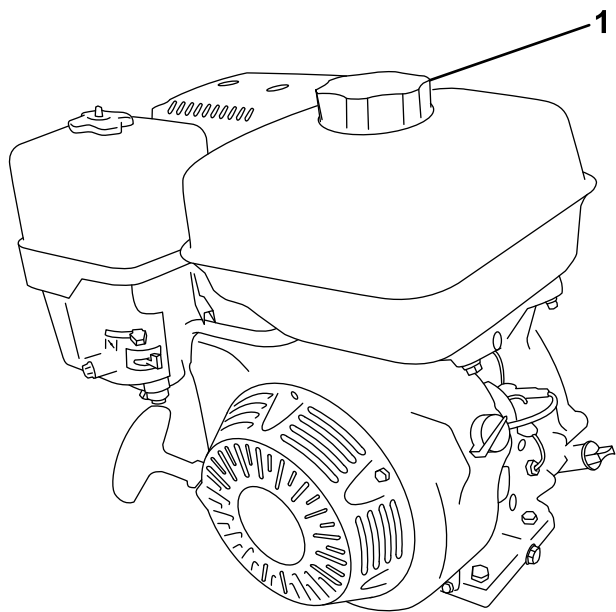

Figure 30
2. Clean around the fuel cap and remove it (Figure 30).
4. Install the fuel cap securely (Figure 30).